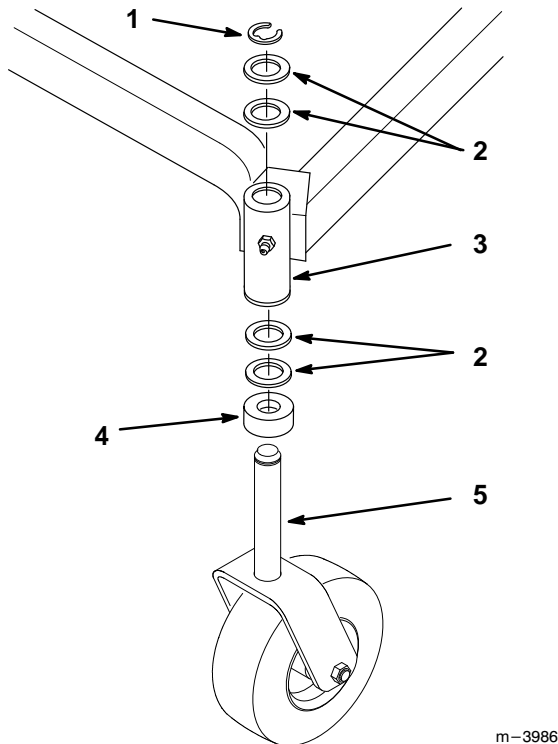

Figure 1
1. Place the (2) thrust washerS and spacer onto the castor wheel fork (Fig. 1).
2. Insert the castor wheel fork into the carrier frame mounting tube (Fig. 1).
3. Install (2) thrust washer onto the castor wheel fork, then secure with a retaining ring (Fig. 1).